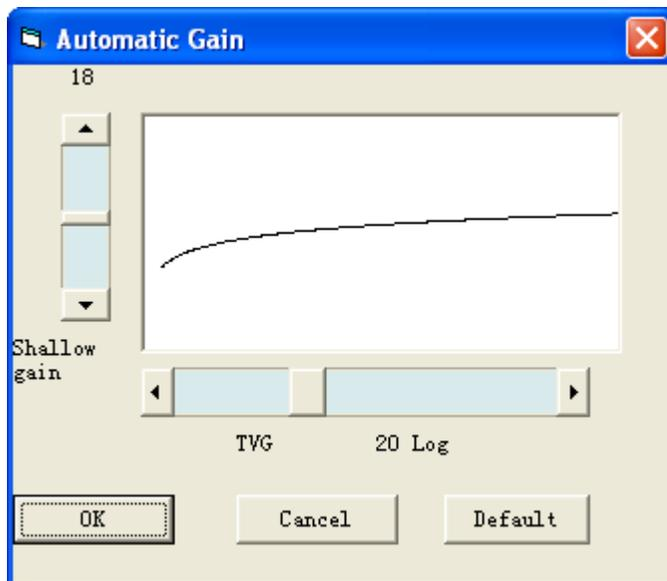

Figure 2-12 Automatic gain
- Gain control: modifying gain value by adjusting slide bar or in main screen when closing “*AUTO*” mode. When “*AUTO*” mode is open, the system automatically controls gain according to automatic gain scheme set in “*Advance*”, as indicated in Figure 2-12.